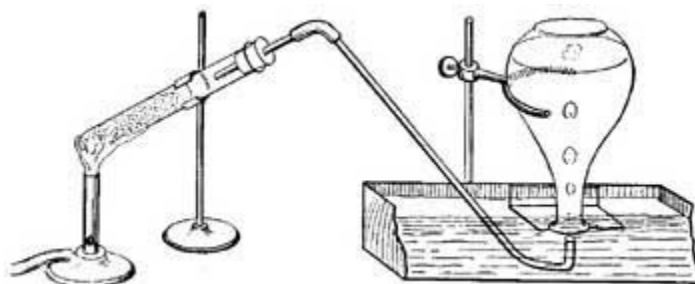

FIG. 22.—Preparing oxygen from potassium chlorate and manganese dioxide.
36. How to Prepare Oxygen. Mix a small quantity of potassium chlorate with an equal amount of manganese dioxide and place the mixture in a strong test tube. Close the mouth of the tube with a one-hole rubber stopper in which is fitted a long, narrow tube, and clamp the test tube to an iron support, as shown in Figure 22. Fill the trough with water until the shelf is just covered and allow the end of the delivery tube to rest just beneath the hole in the shelf. Fill a medium-sized bottle with water, cover it with a glass plate, invert the bottle in the trough, and then remove the glass plate. Heat the test tube very gently, and when gas bubbles out of the tube, slip the bottle over the opening in the shelf, so that the tube runs into the bottle. The gas will force out the water and will finally fill the bottle. When all the water has been forced out, slip the glass plate under the mouth of the bottle and remove the bottle from the trough. The gas in the bottle is oxygen.